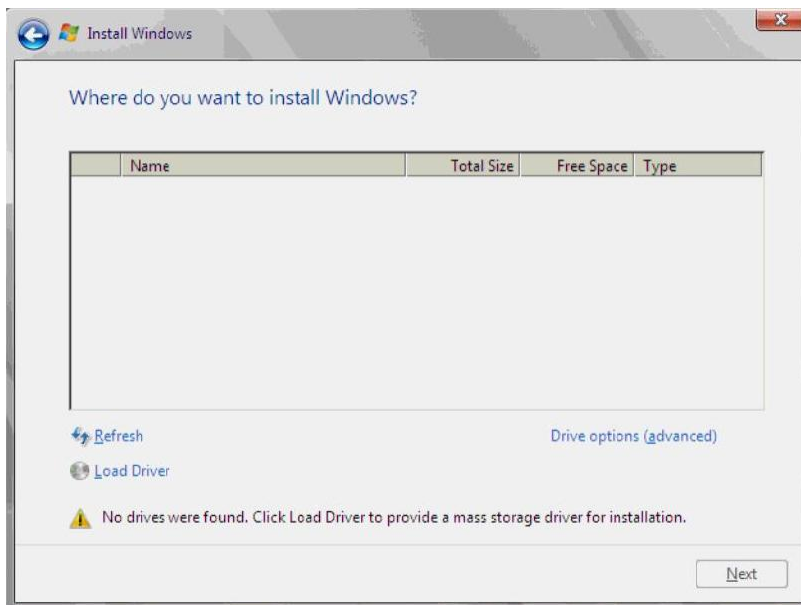

Figure 13 Install Windows 2008 (x86, x64)
- For Windows 2008, click **Load Driver** when prompted for the location in which to install Windows (see Figure 13).